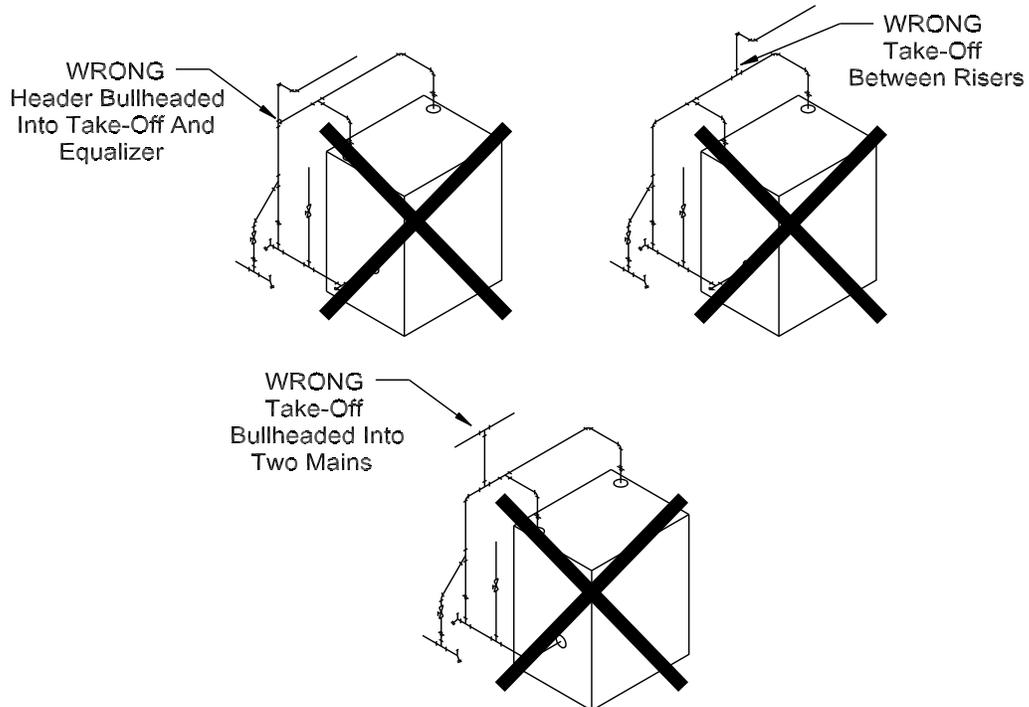

Figure 8-5: Common Near-Boiler Piping Mistakes
Avoid the three common piping mistakes shown in Figure 8-5. This applies even if the existing boiler has one of the piping mistakes shown in Figure 8-5 and appears to be working. If two or more steam mains must be connected to the boiler, connect a separate take-off for each main into the header between the riser(s) and equalizer. Also note the following points:
8. A second system supply tee may be installed adjacent to the first supply tee. Both supply tees are to be located after the riser(s) but before the equalizer line. See Figure 8-5 for common near-boiler piping mistakes.